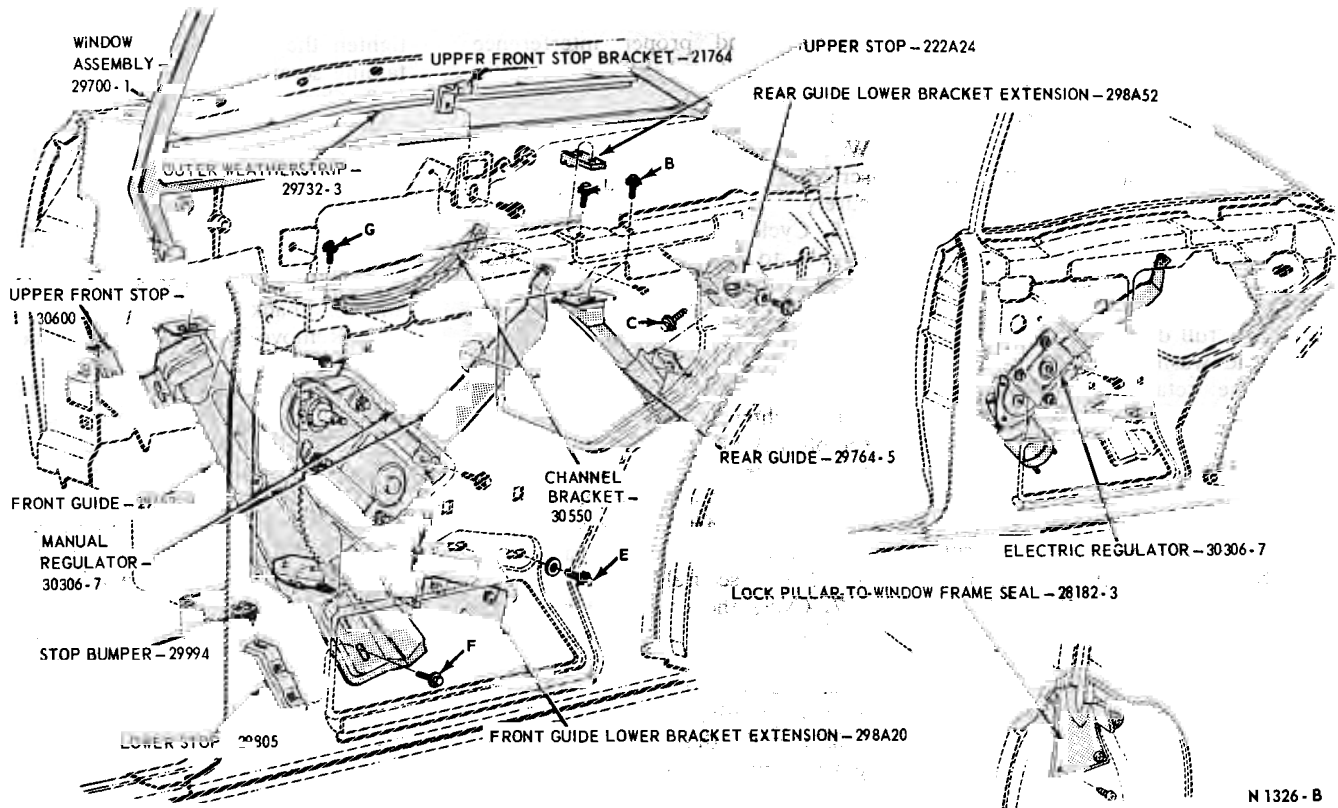

FIG. 8—Quarter Window Mechanism—Comet, Fairlane—Model 63
1. Remove the quarter trim panel and watershield to provide access. Refer to Fig. 8 for the following procedure.
2. Temporarily loosen screw and washer assemblies A, B, C, E, F, G, H, K, and L (Fig. 8).